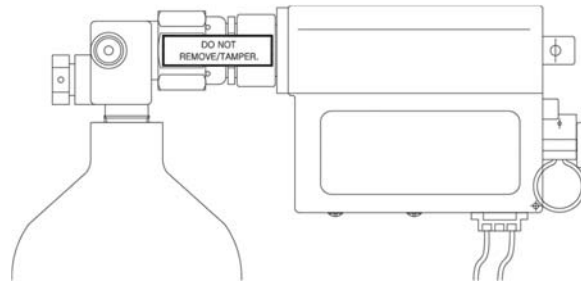

Figure 4.17. Solenoid cutter-cylinder actuation valve tamper sealing.
- 2.5 Attach the tamper seal making sure that it properly stick with the solenoid cutter and actuation cylinder valve as illustrated in Figure 4.17.